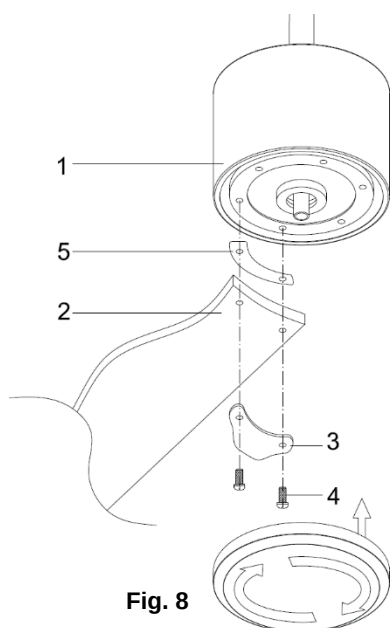

Fig. 8
- Insert the blade screws (4) through the blade assembly in the following order, bracket kit (3), blade (2) and fiber (5). Attach the blade assembly to the motor (1) and secure it by tightening the 2 screws (4). Fig. 8.